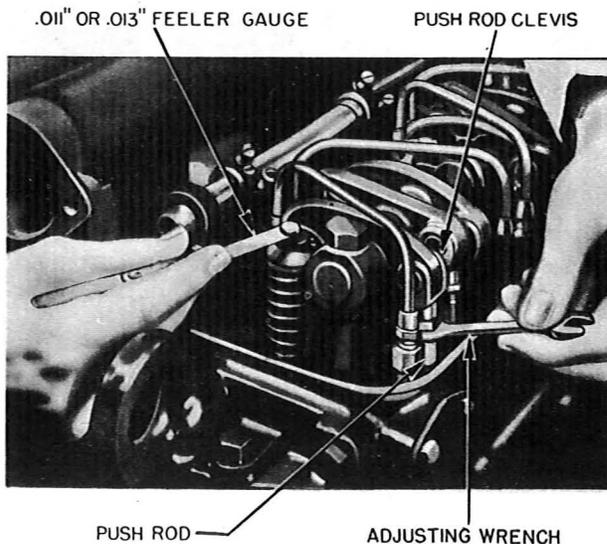
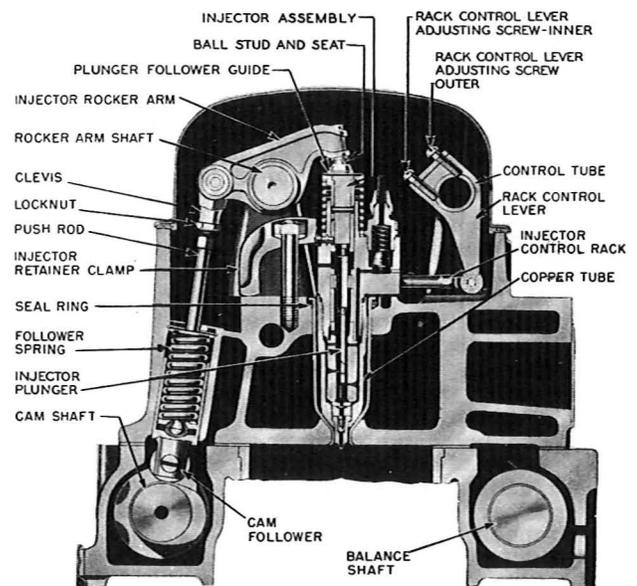

Fig. 6 - Adjusting Valve Lash
Fig. 7 - Fuel Injector Mounting
(1) Adjustment of the valve lash can be changed by means of the threaded upper part of the push rod (see Fig. 6), which is screwed into the
push rod clevis and locked by a locknut. The valve lash should be taken on any cylinder when the injector rocker arm (see Fig. 7) is depressing the injector plunger for that particular cylinder. The adjustment is to be made as shown in Fig. 6
Caution: Whenever a push rod (see Fig. 6) has been disconnected from the push rod clevis, the rod must be screwed back into the clevis flush with the top of the threaded portion of the clevis before the valve lash is checked. If this is not done, the piston may hit the head of the valve when the engine is being turned, owing to the small clearance between the valves and the piston head at the piston's upper position.
body. Loosen the locknut on the upper end of the push rod, and adjust the injector rocker arm (see Fig. 7) by means of the screw adjustment on the upper end of the push rod, until the lowest surface of the timing gauge head when rotated is passing over the top surface of the plunger follower guide. Then tighten the locknut on the push rod and recheck with the timing gauge. Repeat if necessary until the adjustment is correct.
(2) If the above timing operation was carried out on an injector just installed in an engine, do not run the engine until after the injector racks have been positioned as outlined below.
(3) In connection with the positioning of an injector control rack (see Fig. 7), two different conditions will arise, as a result of which it will be necessary to position the injector control racks differently. The two conditions are: